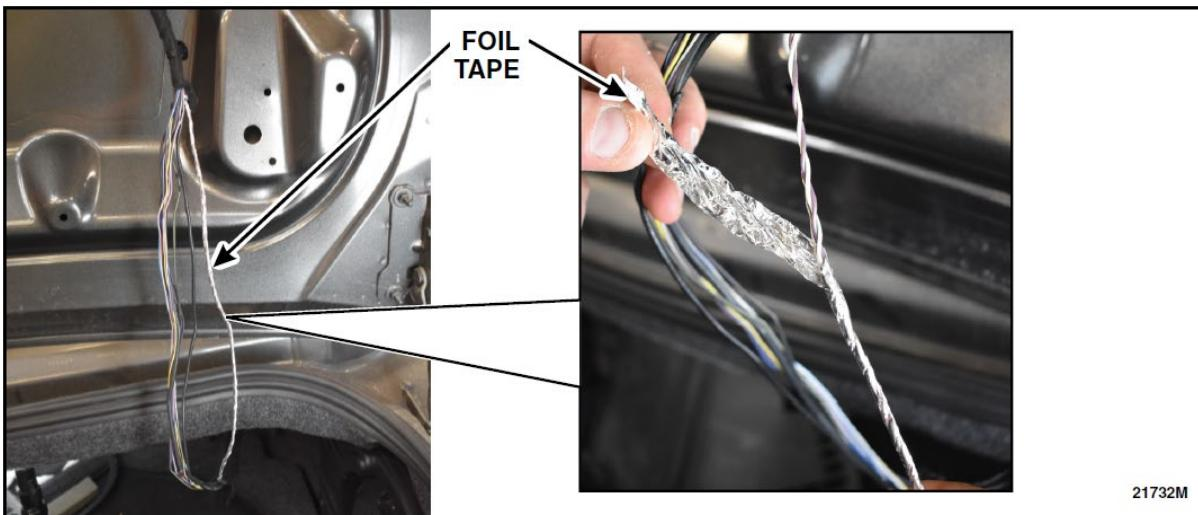

FIGURE 14
18. Carefully unwrap the foil tape on the twisted wires the full length of the exposed wiring. See Figure 14.
19. Inspect the entire exposed portion of the wiring harness for any sign(s) of damage or chafing. See Figure 14.